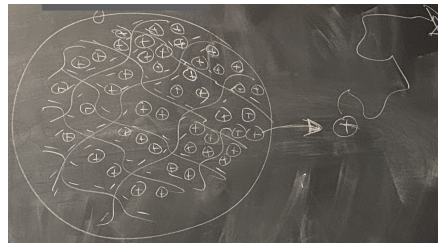

Figure 4.8: A negatively charged gel.
- Since a single positive charge is leaving the gel (as in Figure 4.8), the gel will have a net negative charge afterwards. In other words, Q_{macro} is equal to the opposite of the charge on the one leaving charge.